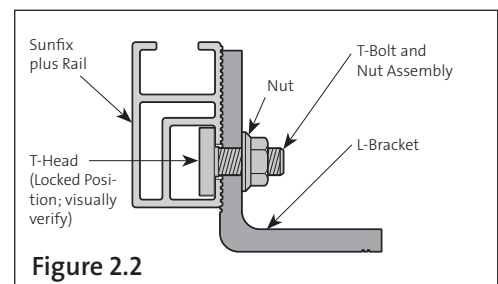

Figure 2.2
- 2.2. Hand tighten nut. As tightening occurs, the T-head will lock perpendicular to the rail. Verify T-head is in this position, as shown in **Figure 2.2**.